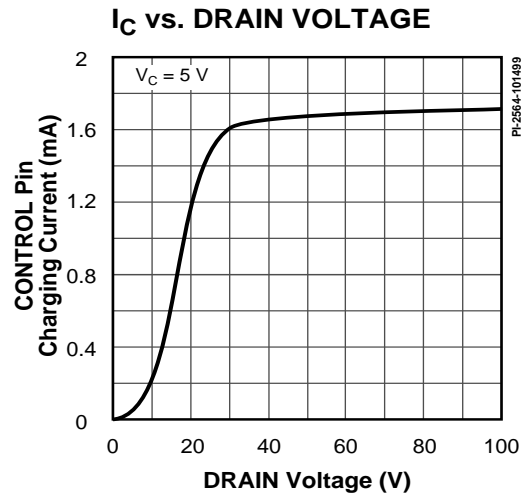

Figure 67. I_C vs. DRAIN Voltage.
- D. It is possible to start up and operate *TOPSwitch-GX* at DRAIN voltages well below 36 V. However, the CONTROL pin charging current is reduced, which affects start-up time, auto-restart frequency, and auto-restart duty cycle. Refer to Figure 67, the characteristic graph on CONTROL pin charge current (I_C) vs. DRAIN voltage for low voltage operation characteristics.